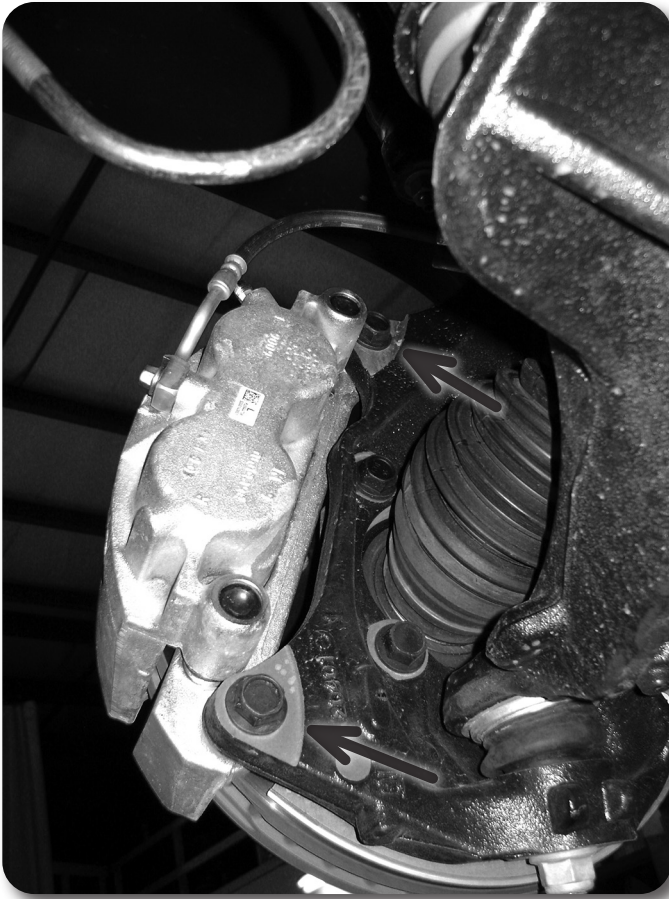

Figure 7
15. Remove the two bolts mounting the brake caliper assembly to the steering knuckle and hang the caliper out of the way **Figure 7**. Do not hang the caliper by the brake hose. Save mounting bolts.